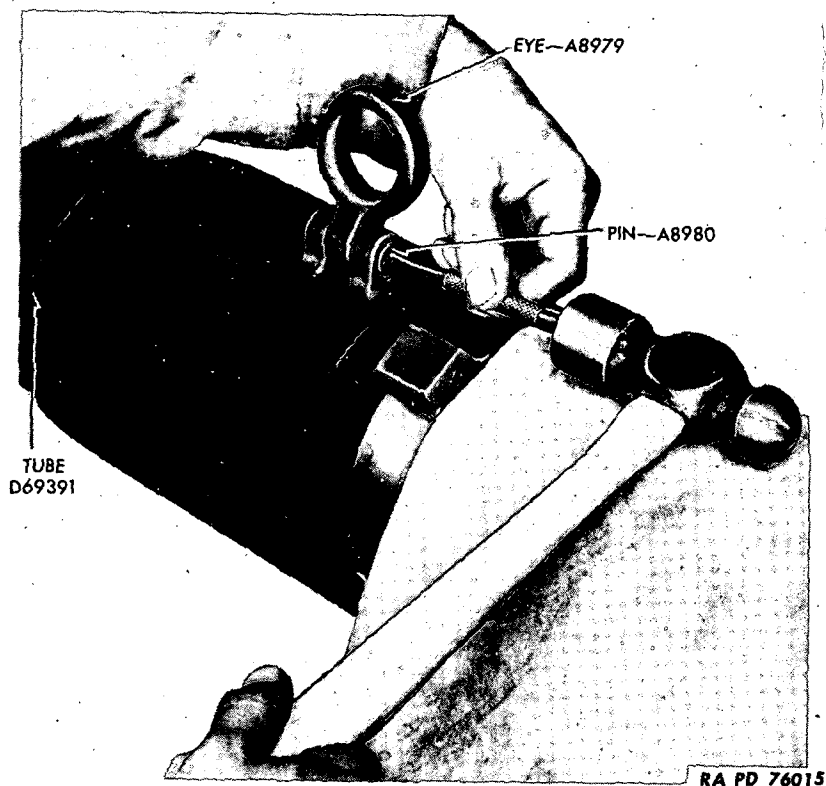

Figure 35—Removing Lifting Eye
- (1) Clean tube assembly thoroughly.
- (2) Inspect the tube assembly as outlined in paragraphs 7, 8, 9, 10, and 11.
- (3) **DAMAGED LIFTING EYE.** Remove the damaged lifting eye by driving out the retaining pin (fig. 35). Place new lifting eye in position and secure with pin.